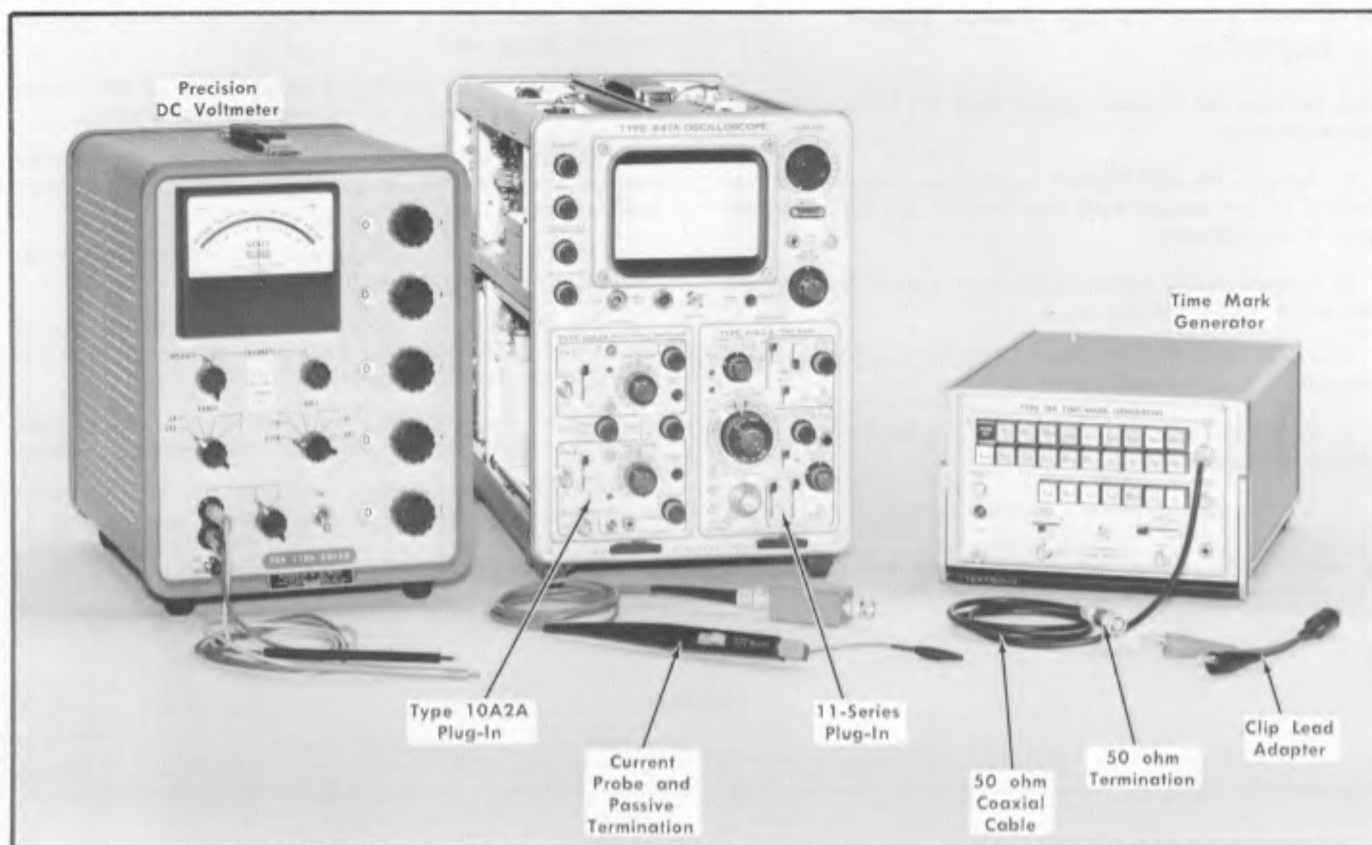

Fig. 6-10. Initial test equipment setup for steps 10 through 15.
- a. Test equipment setup is shown in Fig. 6-10.